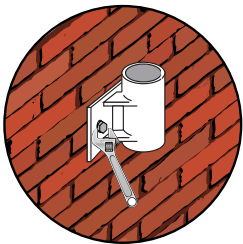

Fig 1.
- 1, Check contents. Position bottom bracket ensuring that it is vertical, drill holes and bolt to the wall (see Fig 1).